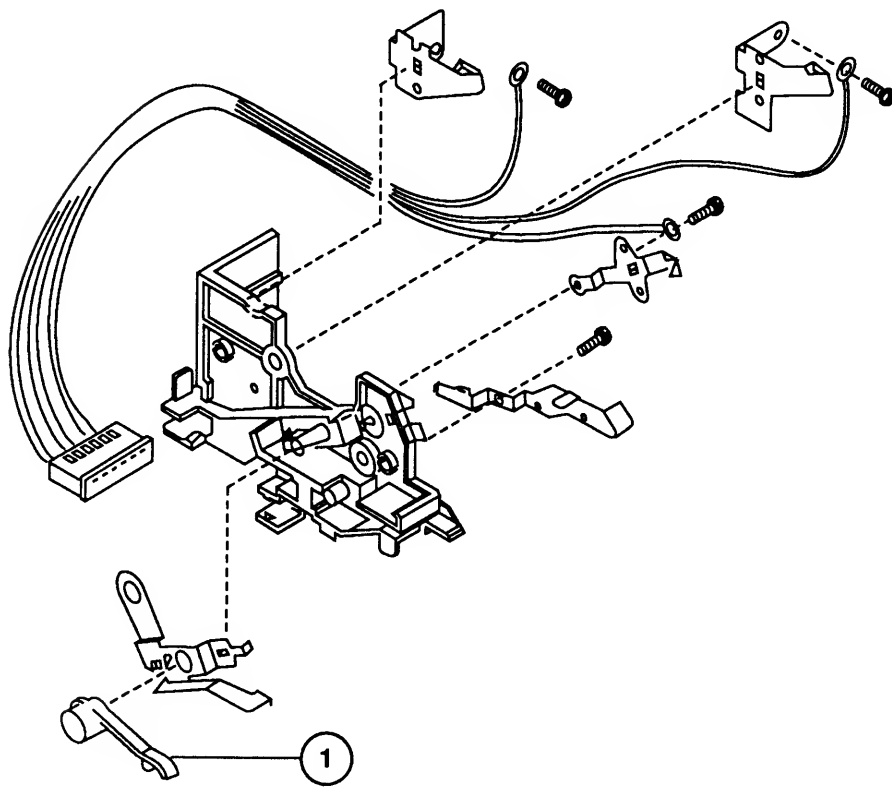

Figure 15
□ HIGH-VOLTAGE CONTACT ASSEMBLY (Figure 15)